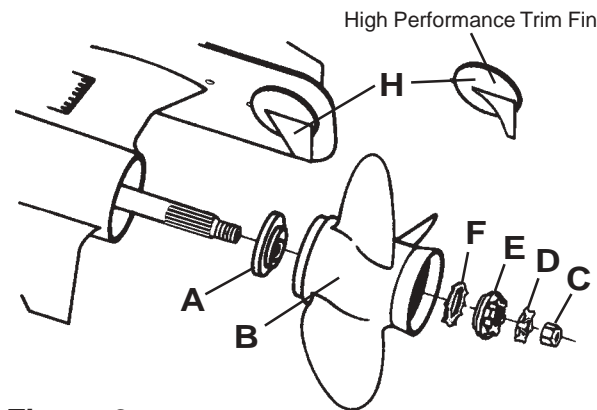

Figure 2 (MERCURY)
**1.** Using proper safety procedures (see Warning on next page) remove existing propeller, and retain the mounting hardware with the old propeller. (see Figures 2 and 3)
**NOTE:** Check for adequate clearance (1/4 inch min.) between trim fin (see Figure 2) and blade tip. Installing the Power Pitch Pro and Switch Blade Pro on some Mercruiser applications may require the installation of a high performance trim fin (Mercury P/N 822-777A1). Some other applications may require that the trim fin be modified or removed.